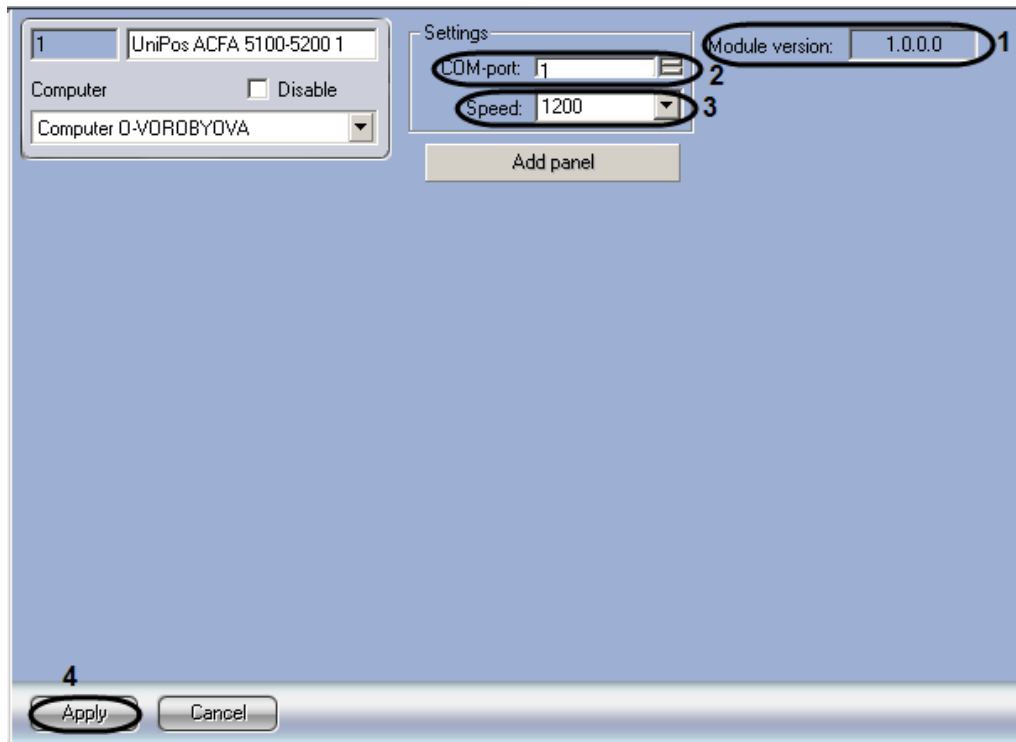

Figure 3.2—2 Setting panel of the “UniPos” ACFA 5100-5200” object
Note. Current version of the UniPos ACFA 5100-5200 integration module is displayed in the **Module version** field (Figure 3.2—2, 1).
2. With the help of **up-down** buttons in the **COM-port** field set the number of COM port through which there will be the connection with *ACFA Intellect* Server (Figure 3.2—2, 2).